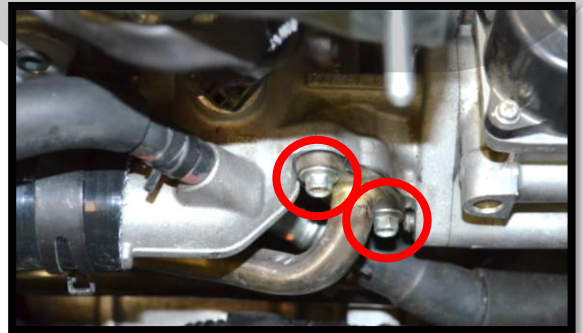

Figure 2g
- j) Disconnect the EGR tube at the engine using an 8mm socket and ratchet. Remove the two bolts **circled in red** in **Figure 2g** and remove the EGR tube from your car. Depending on your intake setup, you may need to remove your intake and/or turbo inlet pipe to access these EGR bolts.